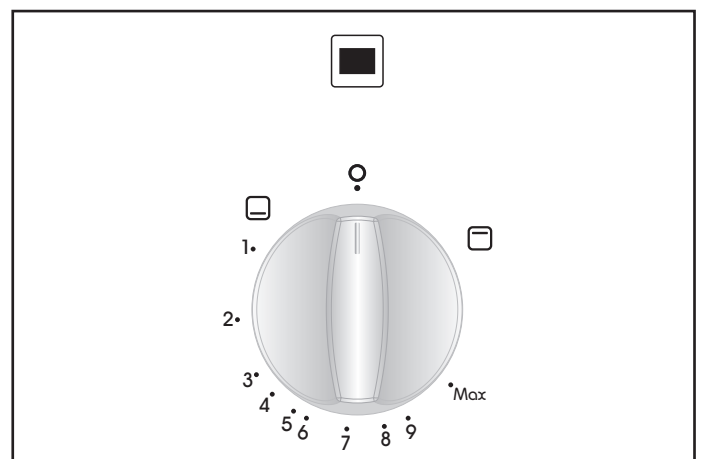

Figure 8
4. To turn the oven off, rotate the control knob anti-clockwise until the '0' position is selected as shown in figure 8.